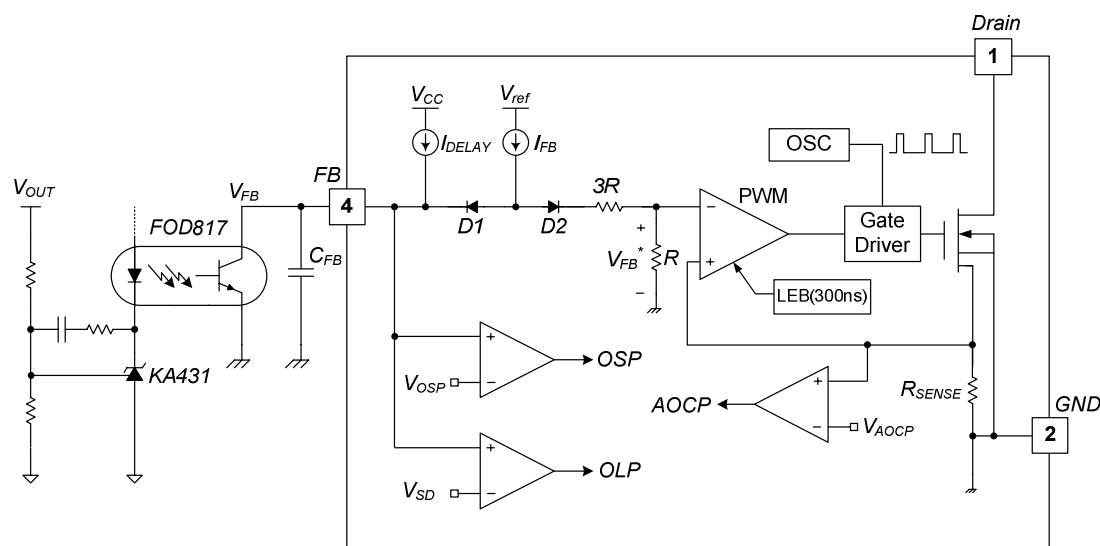

Figure 18. Pulse Width Modulation Circuit
3. Feedback Control: This device employs current-mode control, as shown in Figure 18. An opto-coupler (such as the FOD817) and shunt regulator (such as the KA431) are typically used to implement the feedback network. Comparing the feedback voltage with the voltage across the R_{SENSE} resistor makes it possible to control the switching duty cycle. When the reference pin voltage of the shunt regulator exceeds the internal reference voltage of 2.5V, the opto-coupler LED current increases, pulling down the feedback voltage and reducing drain current. This typically occurs when the input voltage is increased or the output load is decreased.
3.1 Pulse-by-Pulse Current Limit: Because current-mode control is employed, the peak current through the SenseFET is limited by the inverting input of PWM comparator (V_{FB}^*), as shown in Figure 18. Assuming that the $210\mu A$ current source flows only through the internal resistor ($3R + R = 11.6k\Omega$), the cathode voltage of diode D2 is about 2.4V. Since D1 is blocked when the feedback voltage (V_{FB}) exceeds 2.4V, the maximum voltage of the cathode of D2 is clamped at this voltage. Therefore, the peak value of the current through the SenseFET is limited.